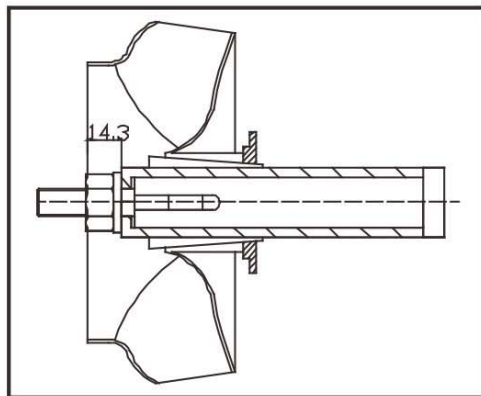

Figure 4
- Install the impeller shaft bushing and impeller on the shaft; tighten the nuts of impellers, ensuring the dimension of Figure 4, i.e.: 14.3;